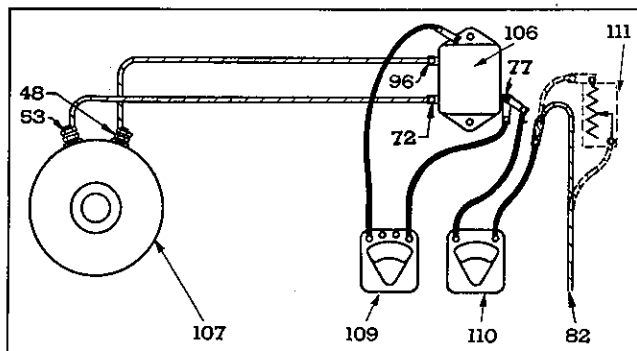

Fig. 6—Ammeter and Voltmeter Connections to Step-Voltage Control for Checking and Adjusting Generator Output.
2. Excessive gassing of the battery indicates overcharge. The voltage control is designed to reduce the generator charging rate to approximately 2 amperes at 2000 generator RPM (approximately 1200 engine RPM) when the battery has approached a fully charged condition. Check the voltage control action by stopping the engine and connecting ammeter into the charging circuit, as shown in Fig. 6. Disconnect load from "BAT." terminal of voltage control and connect negative ammeter lead to this terminal. Connect positive ammeter lead to disconnected lead. With the ammeter connected and the engine restarted, there should be 6 to 8 amperes charge for a short time (up to 30 minutes with a charged battery). As the current used in starting is replaced in the battery, it will come up in voltage until the voltage control operates. This should reduce the charging rate to about two amperes. Failure of the units to operate in this manner will necessitate their being taken off the engine for further check and adjustment as described on Page 5.
1. Refer to Fig. 6 and disconnect lead from "BAT." terminal of voltage control and connect to one terminal of the variable resistance. Connect positive ammeter lead to "BAT." voltage control terminal. Connect negative ammeter lead to other terminal of the variable resistance. Connect negative voltmeter lead to "BAT." voltage control terminal and positive lead to ground (base of voltage control or generator frame).